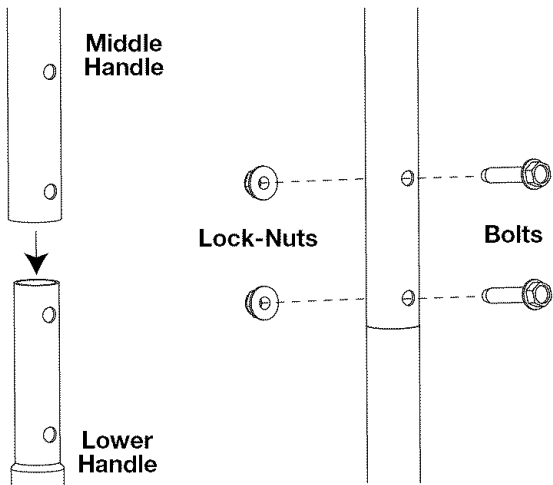

Fig. 1
2. Place the end of the middle handle over the lower handle and align the holes (Fig. 1). Making sure the "TO START" label is facing up.